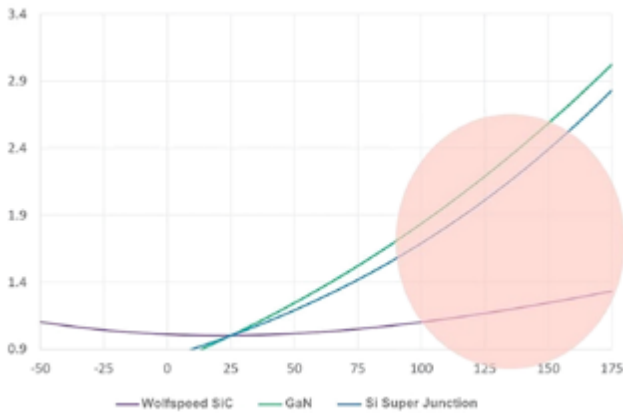

Figure 2: A generic chart showing typical MOSFET RDS(ON) (normalized) change over temperature.
Figure 2 shows normalized RDS(ON) plotted against temperature for the technologies that many designers consider using to meet Gen 2 datacenter PSU requirements — SiC, GaN, and Si Super Junction (SJ). It is interesting to note that both GaN and SJ devices boast a lower RDS(ON) below 25°C, which are temperatures not quite practical for datacenter power supplies. As datasheets for GaN and SJ devices often specify RDS(ON) at 25°C, it can mislead engineers into assuming that specification at the much higher operating temperatures for which systems are normally designed.
Another interesting characteristic to note in Figure 2 is the change in RDS(ON) over temperature. SiC's curve remains nearly flat, and although the other technologies both show a significant increase in RDS(ON), this change is particularly dramatic for GaN. Since designers have to use RDS(ON) at real-world junction temperatures of 120°C to 140°C, a 60-mΩ SiC device would be 80-mΩ "hot," while a 40-mΩ Si SJ or GaN device would really be significantly >80-mΩ hot.
Compared with Si-based H-bridge, SiC-based CCM totem pole PFC can have not only higher efficiency but higher power density at similar or lower cost. A comparison of efficiency between technologies clearly shows that while both SiC- and GaN-based CCM totem pole PFCs can achieve >99% efficiency, GaN has the efficiency advantage only at very light loads. As discussed earlier, GaN's much higher  $R_{DS(ON)}$  change over temperature (Figure 2) results in its dramatically drooping efficiency curve at higher power/loads. In applications, like datacenters, that operate at or near full load 24/7, GaN therefore fails to meet efficiency requirements.